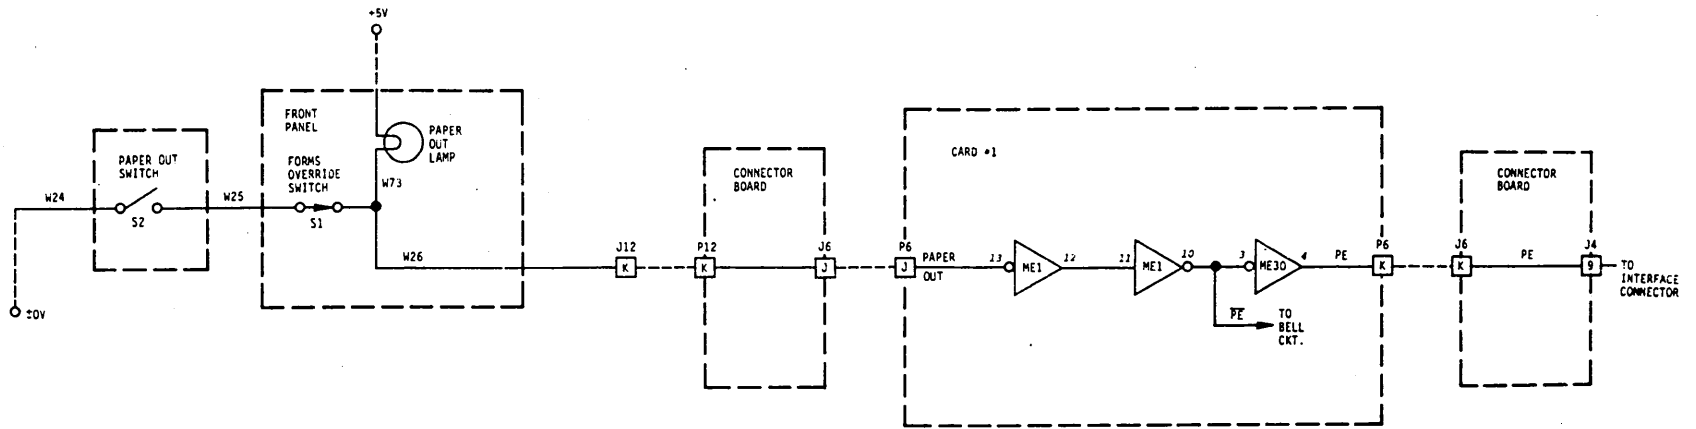

Figure 4-26. PAPER EMPTY
4.7.3 PAPER EMPTY (FIGURE 4-26)